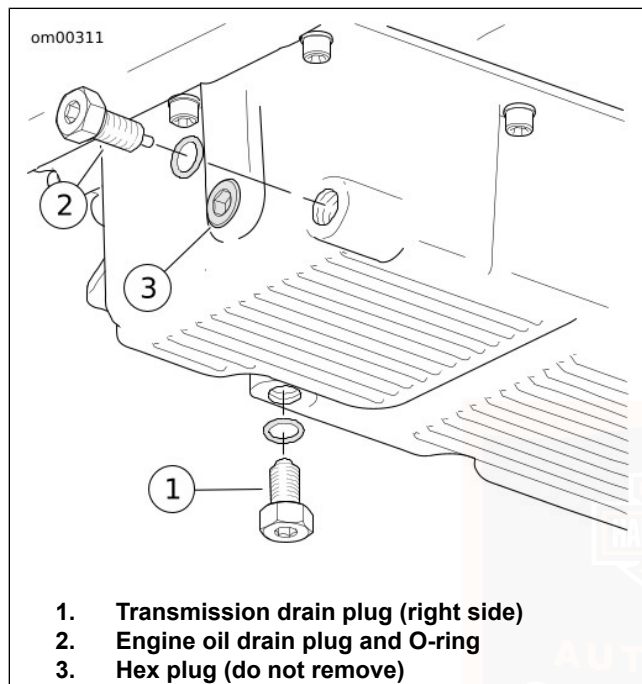

Figure 44. Oil Pan
2. See Figure 44. Remove transmission drain plug. Drain lubricant into a suitable container.